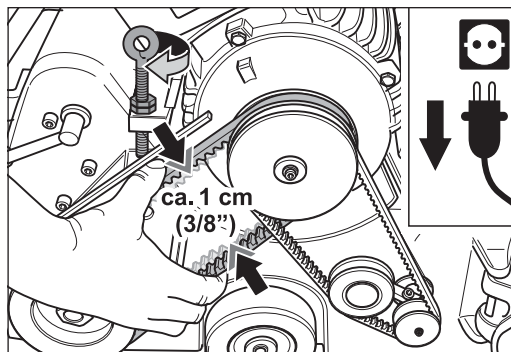

Fig. 63 Belt tension: The slack on the V-belt should be just under one width of the V-belt.
- 6 Mount the new V-belts and tension the drive belt using the tensioning bolt at the motor. The slack on the V-belt should be just under one V-belt width (Fig. 63).